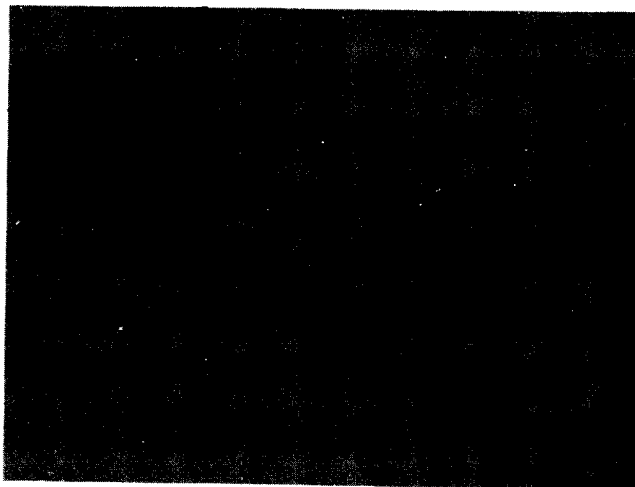

Figure 13-23
Having removed and separated push rod (7, Fig. 13-23) and push rod guide (6), remove primary inlet valve guide (5) from upper valve body (1). Discard seal (4) from outer groove of valve guide (5) and packing from inner groove. Separate primary inlet spring (3) and valve (2).
Install new seal (4, Fig. 13-23) in outer groove and packing in inner groove of valve guide (5). Insert primary inlet valve (2) into spring (3) and valve guide (5) and insert into upper valve body (1). Slip push rod guide (6) and push rod (7) into valve in upper valve body.